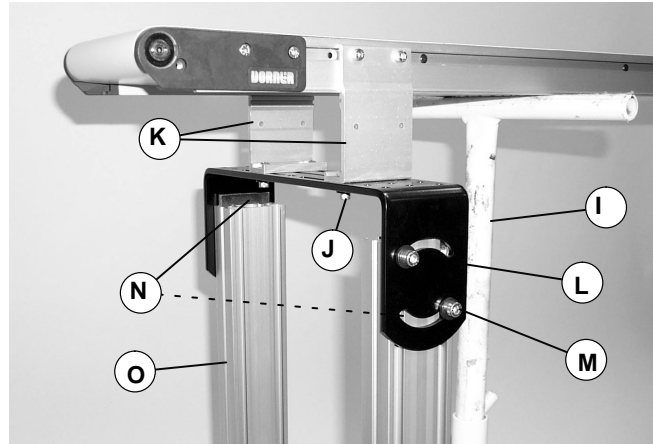

Figure 3
**NOTE:** Figure 3 shows a 2" (51mm) to 12" (305mm) stand mounting bracket (L). Removal of the two stand mounting brackets used with support stands wider than 12" (305mm) is similar.
1. Place a support (I of Figure 3) below conveyor.